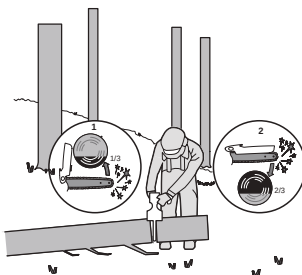

Figure 3
When the log is supported on one end, as illustrated in Figure 3, cut $\frac{1}{3}$ the diameter from the underside (underbuck) (1). Then make the finished cut by overbucking (2) to meet the first cut.